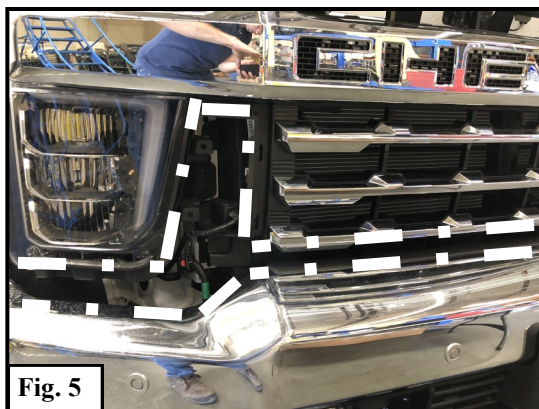

Fig. 5
6. Pry filler panel off removing any necessary bolts. See **Figure 5**.